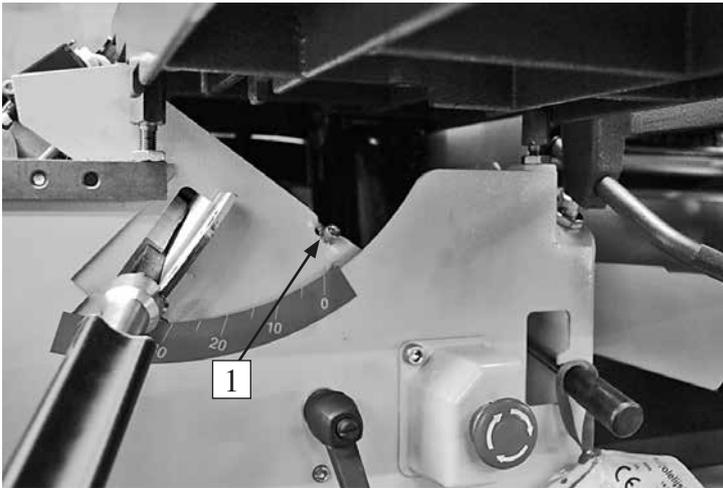

Fig.36
The saw belts tension (fig. 36) can be adjusted by tilting the saw blade to 45°; then the spanner bolt (1) can be seen and reached just above the rise and the fall handle for the saw. By turning this bolt clockwise the saw belt will be tensioned, anti-clockwise loosened.